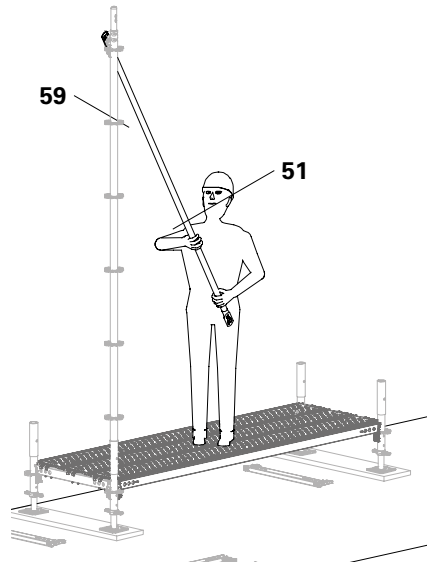

Fig. A3.02a
3. Attach the Guardrail Posts EPG (**51**) to the Guardrail Holder EPW (**59**) and place the other side on the deck (Fig. A3.02a)